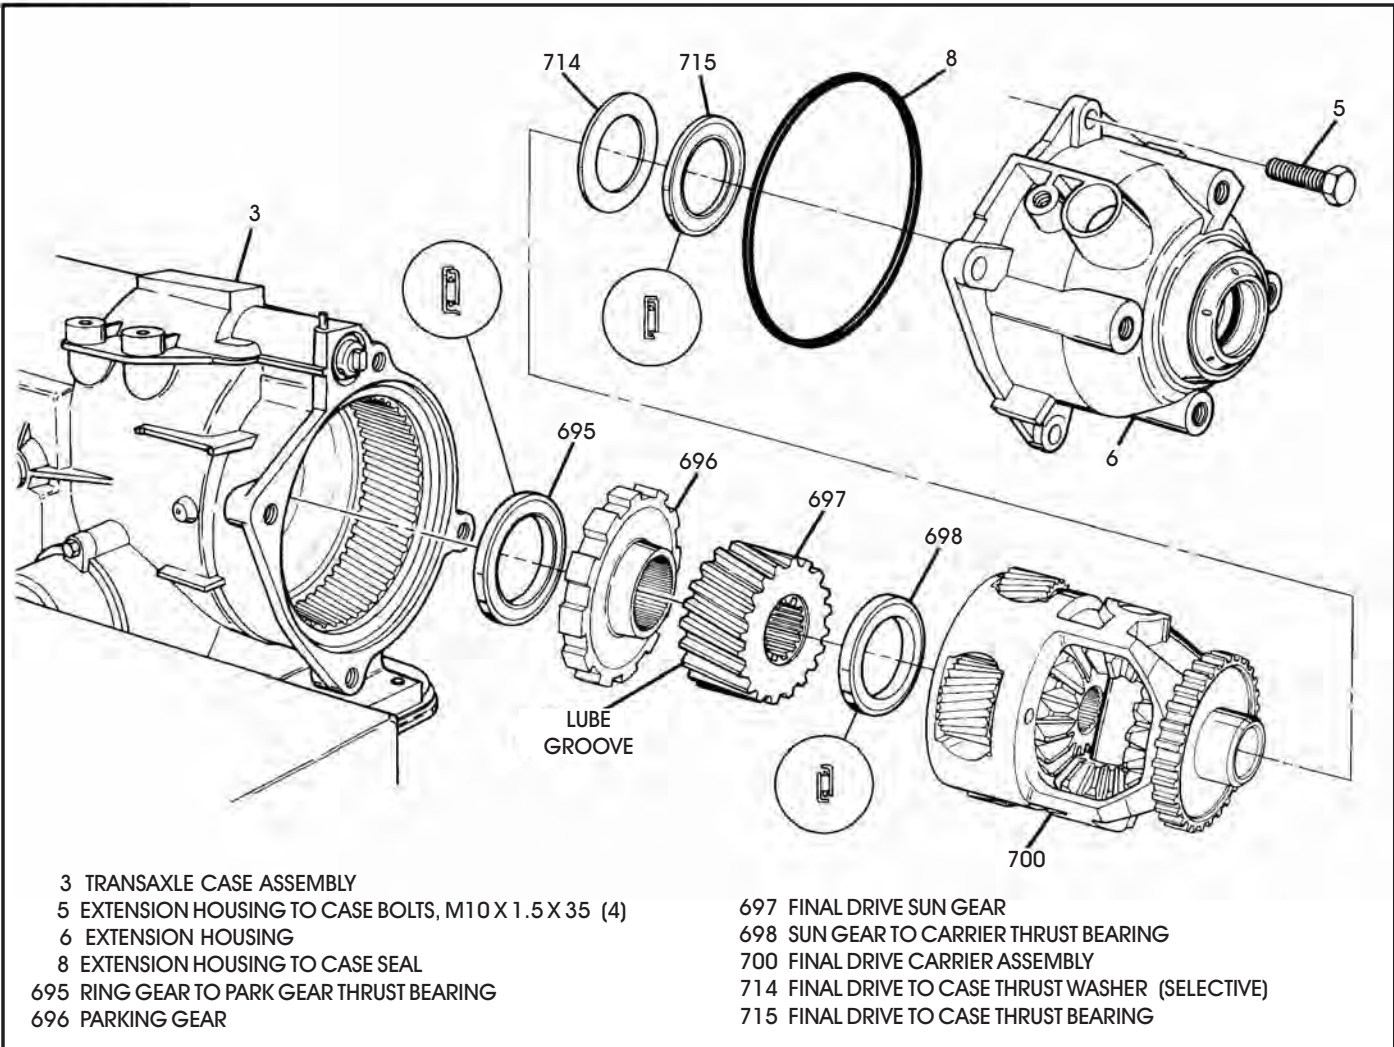

Figure 166
2. Rotate transaxle in fixture so that bottom pan surface is facing down (See Figure 166).
6. Install the pre-assembled final drive carrier on final drive sun gear by rotating into position until fully seated, as shown in Figure 166.
7. Install the "Selective" thrust washer onto the final drive, as shown in Figure 166.
8. Install the carrier to extension housing thrust bearing on final drive carrier (See Figure 166).
9. Install the extension housing, **without** "O" ring seal at this time, and retain with only two bolts for later removal. (See Figure 166).